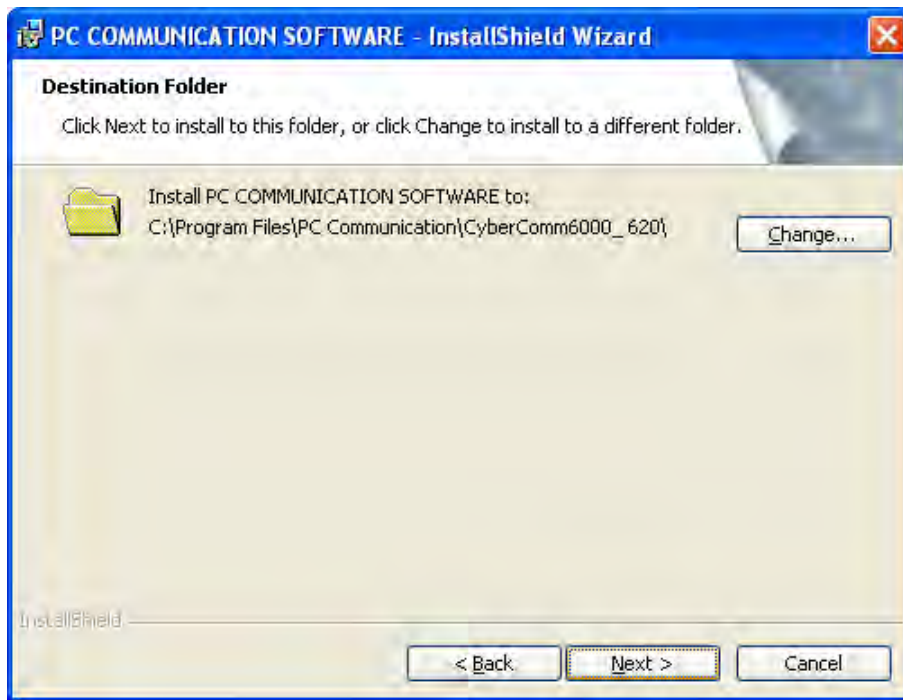

Figure 4 : Destination folder
4. By default, the program will be installed into '*C:/Program Files/ PC Communication/Cybercomm6000\_620*' folder. Click **Next** to install the program in this folder. Optionally, click **Change** to install into a different folder. (Figure 4)